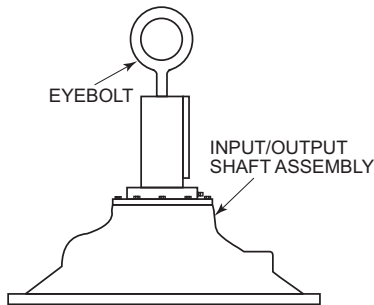

Figure 6.3.1 Proper Lifting of Input or Output Shaft Assemblies
7. Remove assembly by lifting it straight up away from the maincase. An eye bolt can be used in the threaded end of the shaft to lift the assembly; reference Figure 6.3.1. **DO NOT LIFT ENTIRE REDUCER BY THE THREADED HOLE ON EITHER SHAFT.**